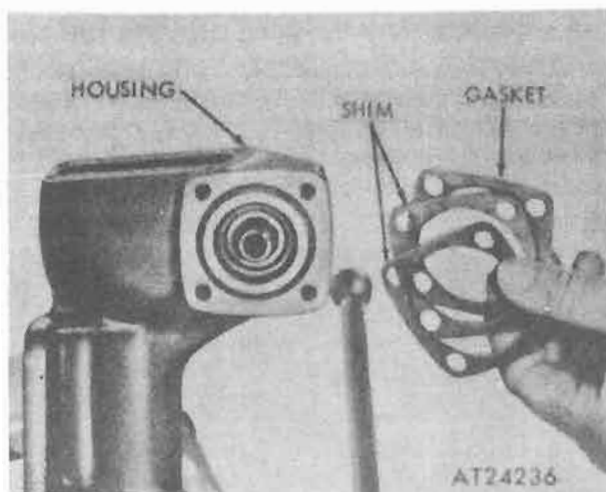

Figure 16-10. Housing end cap shims and gasket.
- j. Remove cap assembly gasket and shim or shims from housing (fig. 16-10).